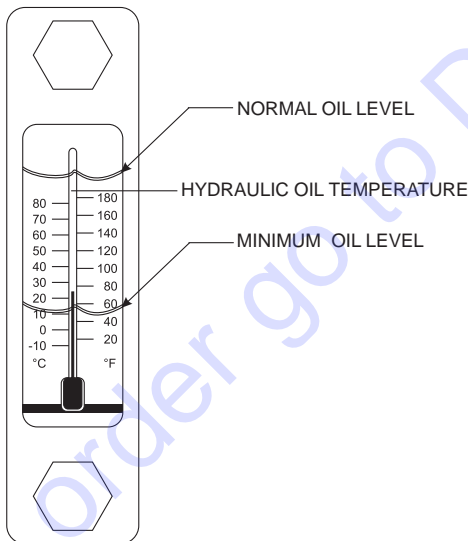

Figure 14. Hydraulic Oil Sight Glass
1. Determine if the hydraulic oil level is low by observing the level of the oil in the **hydraulic oil sight glass** (Figure 14).